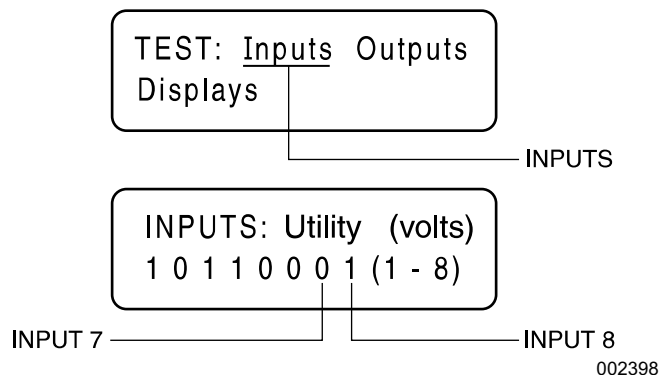

Figure 4-19. The Input Screens
1. See *Figure 4-19*. Navigate to the input screen using the menu system for the controller being worked on.